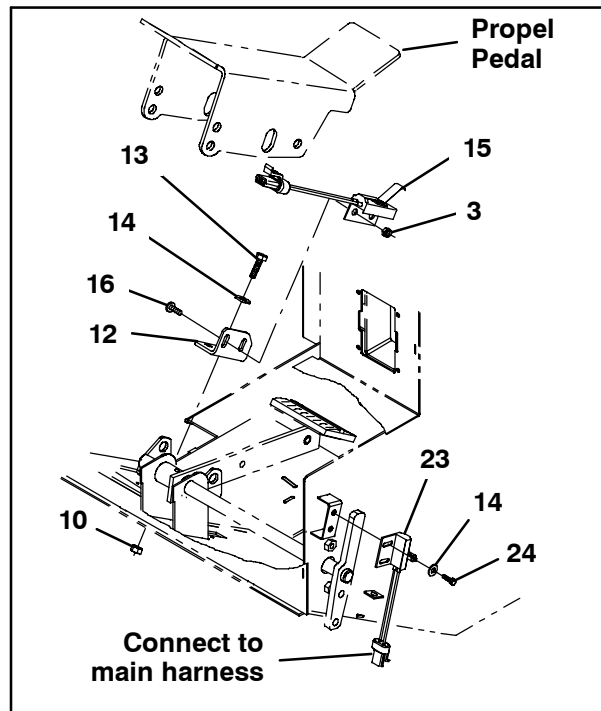

FIG. 8
12. If necessary, remove the propel pedal from the machine. Set all mounting hardware aside. Refer to Fig. 8.
13. Use two hex nuts (3) and two pan screws (16) to install the switch (15) onto the reverse switch bracket (12). Refer to Fig. 8.
14. Use two hex screws (13), two washers (14), and two hex nuts (10) to install the reverse switch bracket (12) onto the machine. Refer to Fig. 8.
15. Use two hex screws (24) and two washers (14) to install the limit switch (23) onto the machine. Refer to Fig. 8.